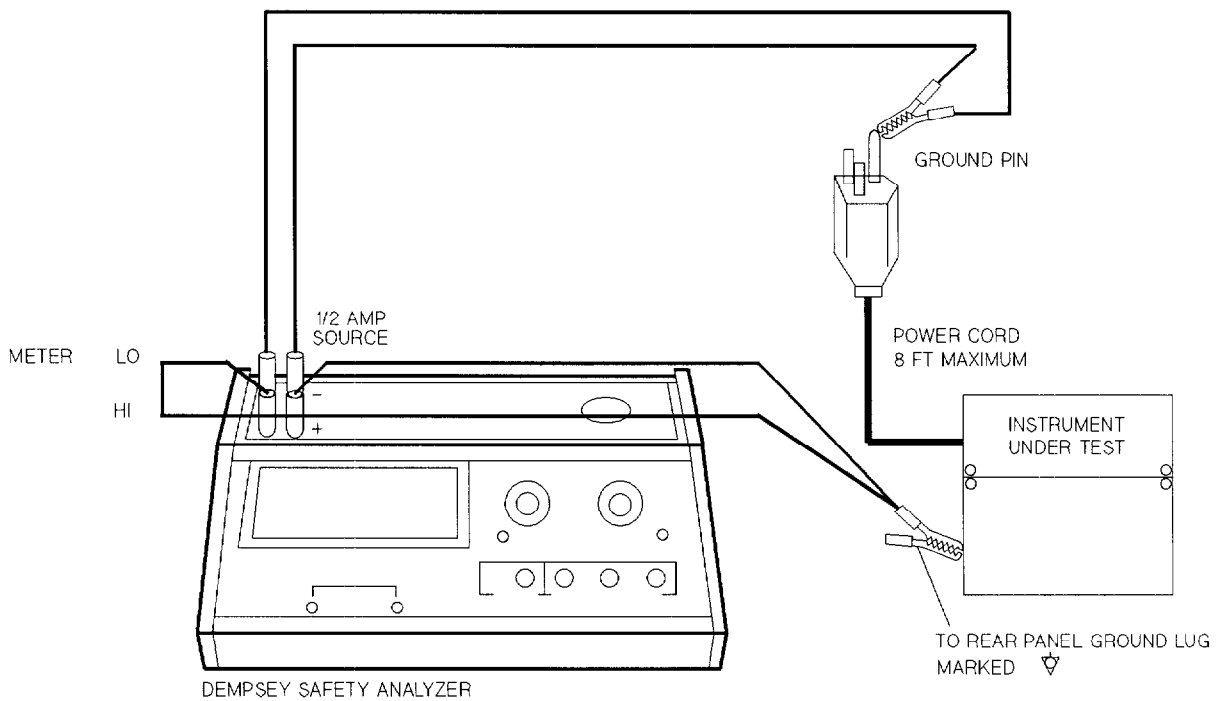

Figure 3-8. Chassis to Ground Resistance Test Setup
Set up the instruments as shown in Figure 3-8.
- c. Connect clip on free end of Kelvin cable to ground pin of male power cable connector (Figure 3-8).